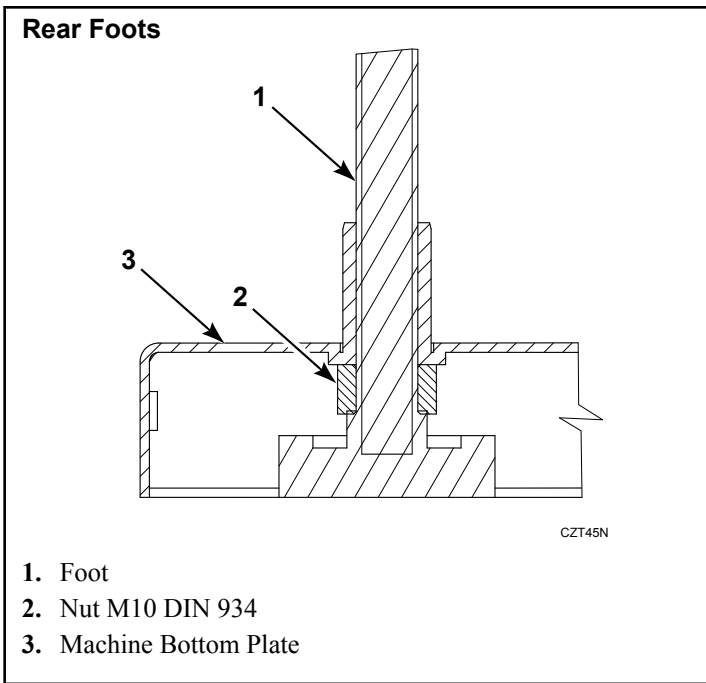

Figure 23
- Dismount the rear feet of the machine (unscrew them). Screw on standard nut M10 on the foot. Tighten the nuts fully. Screw the rear feet assembled in such a way back into the machine. Tighten the feet fully. The assembled rear foot in the machine is shown in *Figure 23*.